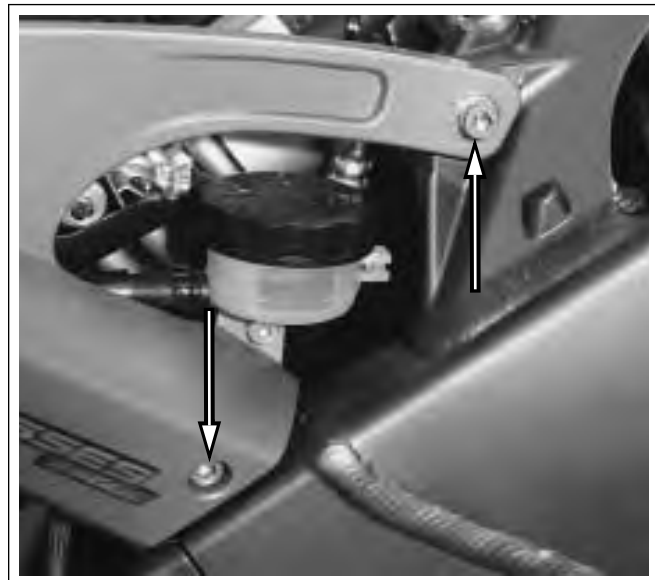

Figure 2-133. Front Outside Fasteners
12. See Figure 2-133. Remove the final two fasteners on the outside of the right tail section and remove the right side tail section.